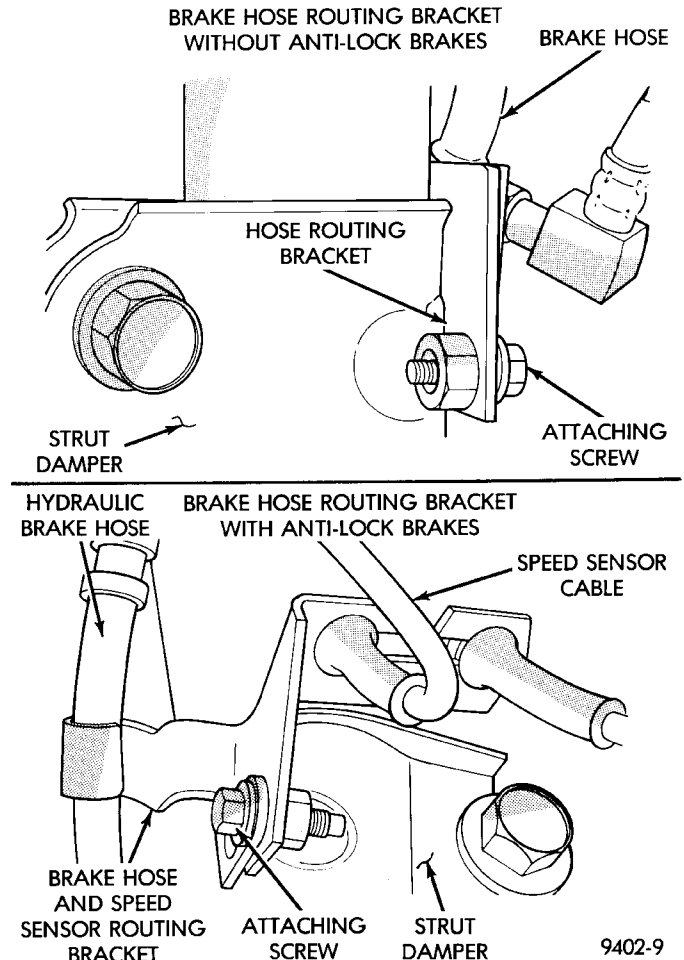

Fig. 11 Brake Hose And Speed Sensor Cable Routing Brackets
- (1) Loosen wheel nuts.
- (2) Raise vehicle on jack stands or centered on a frame contact type hoist. See Hoisting in the Lubrication and Maintenance section of this manual, for the required lifting procedure to be used for this vehicle.
- (3) Remove wheel and tire assembly from location on front of vehicle requiring strut removal.
- (4) If both strut assemblies are removed, mark the strut assemblies right or left according to which side of the vehicle they were removed from.
- (5) Remove hydraulic brake hose routing bracket and attaching screw from strut damper bracket. If vehicle is equipped with Anti-Lock brakes, hydraulic hose routing bracket is combined with speed sensor cable routing bracket (Fig. 11).
(3) Install hydraulic brake hose routing bracket and attaching screw onto strut damper bracket. If vehicle is equipped with Anti-Lock brakes, hydraulic hose routing bracket is combined with speed sensor cable routing bracket (Fig. 11). Torque bracket attaching bolts (Fig. 11) to 13 N·m (10 ft. lbs.).
(4) Tighten the wheel mounting stud nuts in proper sequence until all nuts are torqued to half specification. Then repeat the tightening sequence to the full specified torque of 135 N·m (100 ft. lbs.).